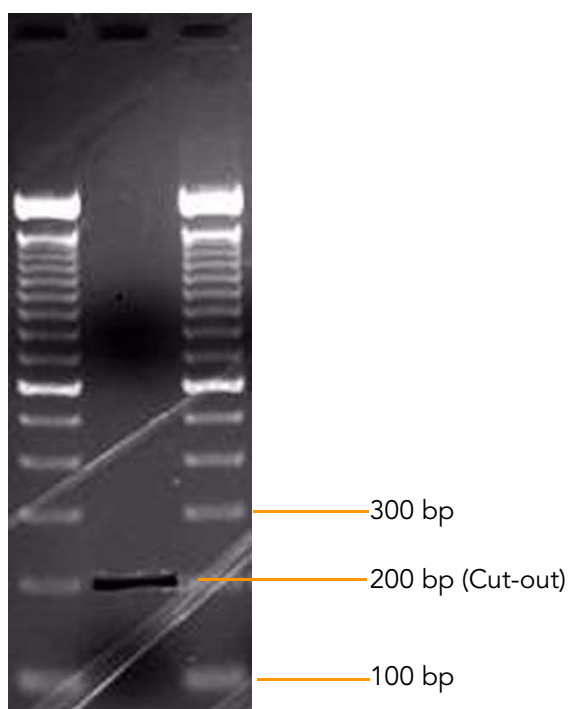

Figure 1 2% Agarose Gel
4. Excise a region of gel with a clean gel excision tip and remove the gel slice by centrifuging it into a microcentrifuge tube. The gel slice should contain the material in the 200 bp ($\pm$ 25 bp) range. See Figure 1.